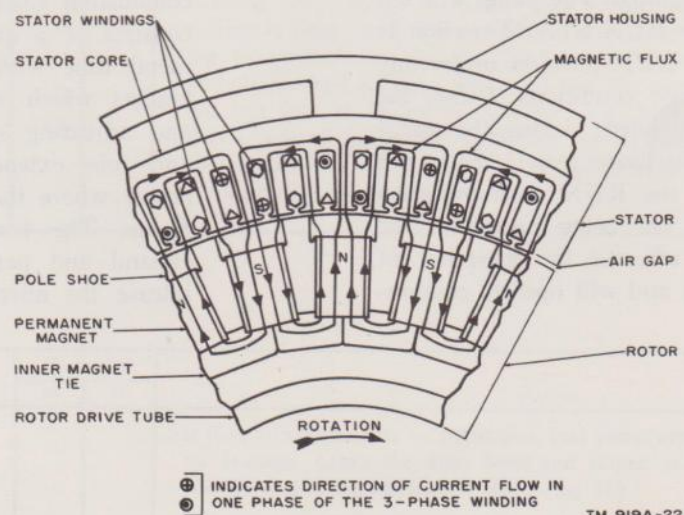

Figure 22. Alternator theory.
*a. Alternator.* Gasoline Engine Generator Set PU-107A/U is equipped with an alternator directly coupled to the engine flywheel and supported at the outboard end by a ball bearing. The alternator is of the rotating permanent magnet field type with 28 poles, resulting in a frequency of 400 cps with an engine speed of 1,714 rpm. The alternator is rated at 12.5 kw and generates 120 or 208 volts, depending on the connection used. The specific feature of the permanent magnet alternator is that it has no field windings; therefore, it requires no external excitation. The rotor is magnetized with the poles that have alternate north and south polarity around the circumference. The magnetic flux (fig. 22) leaves each north pole of the rotating field, passes through the iron core of the stator, and then returns to the adjacent south poles of the rotating field. The rotor with its magnetic field sweeps across the stator windings. There are three separate coils wound on the stator, 120 electrical degrees apart. As the lines of flux cut the stator conductors, voltages are induced in each separate stator winding, producing three-phase alternating voltage. The inherent voltage regulation varies from very close regulation for unity power factor loads to very poor regulation for highly lagging power factor loads. Leading power factor loads increase the voltage so that close voltage regulation can be obtained on single- or three-phase loading when each load is power factor